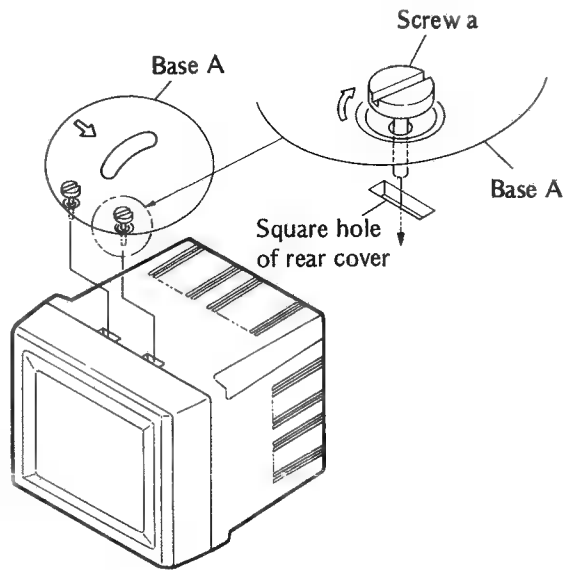

Fig. 1
- 2) Screw the base to the display set with flat type screw driver as per Fig. 1.